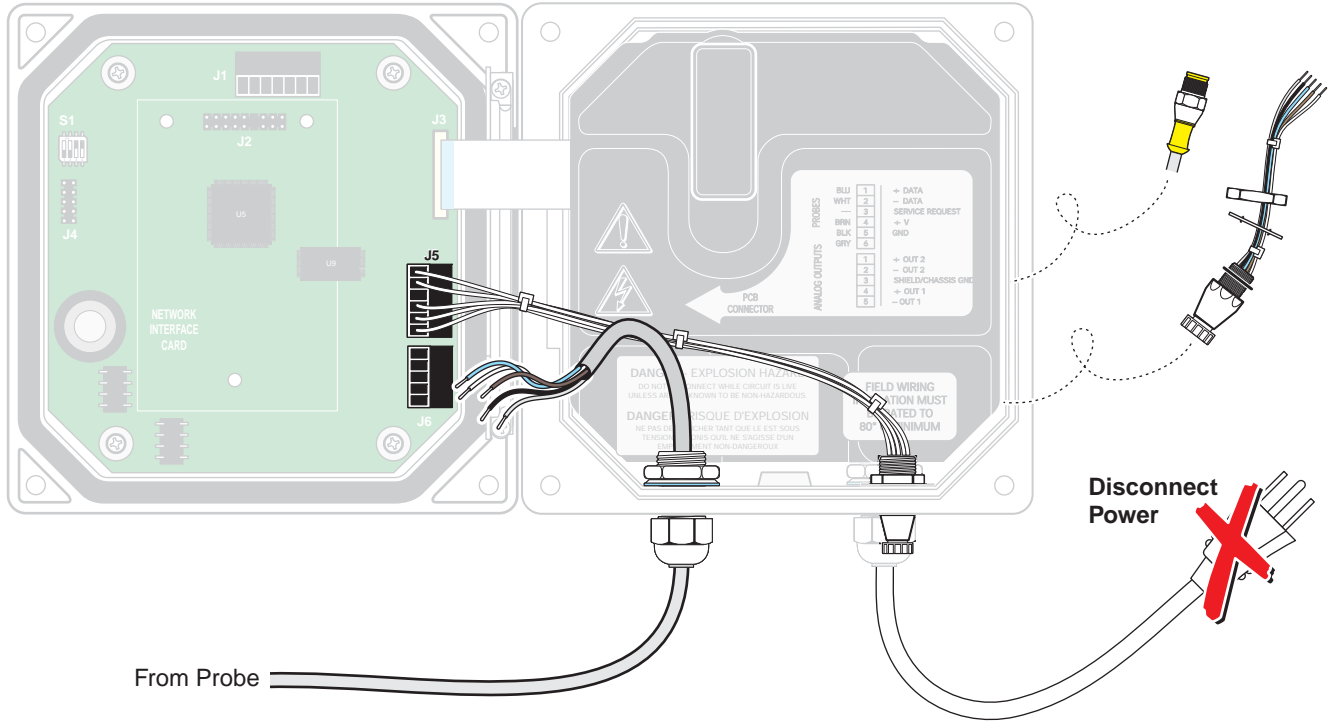

Figure 10 Hard-wiring the Sensor
2. Disconnect and remove the existing wires between the quick connect and terminal strip J5, see Figure 10 on page 19.